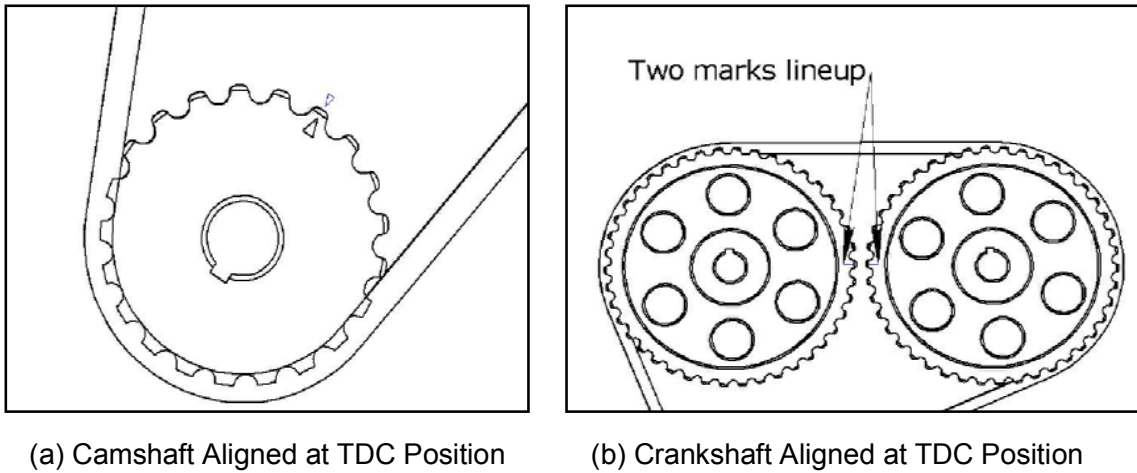

Figure 2: Camshaft and Crankshaft TDC Position
2. Rotate the crankshaft **CLOCKWISE ONLY** to **TDC** (Top Dead Center) position (i.e. #1 cylinder firing position), see Fig.2 (a) and (b).